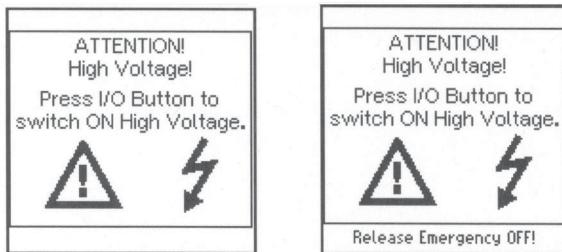

Figure 6
- IF message appears, THEN **CHECK** "Emergency Off" button and "Side Emergency Off" Interlock" plug (see Figure 6).